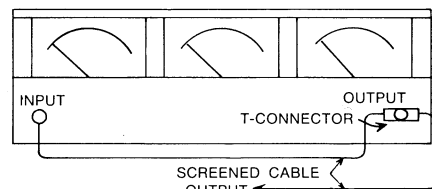

Fig. 4.
- Set LEVEL A switch (17) to OUTPUT.
- Use LEVEL CONTROL (16) (and VERNIER (15), if necessary) to obtain the output level required.
- Set oscillator function switch (8) to either SINGLE SWEEP, MAN. or EXT., as required.
- To monitor the frequency (output level above 10 mV only), use a BNC T-connector and connect the OUTPUT to the INPUT with a short length of screened cable. See Fig. 4.